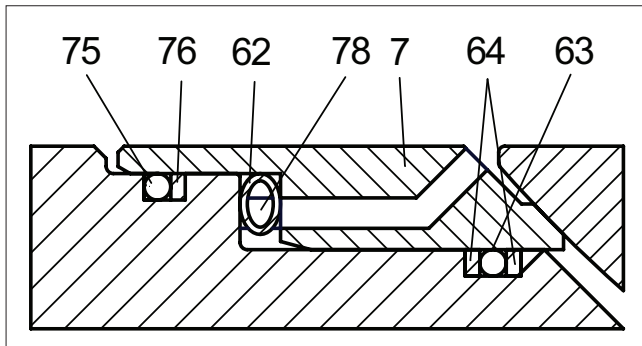

Fig. 10 E seat
- Place the back seals (63, 75) into their place in the body grooves. See Figure 10.
- Place the back-up rings (64, 76) made of PTFE strips on both sides of the back seal (63) and beside the back seal (75). To ensure that the seam becomes flexible, the strips must have slanted ends.
- Place the spring (62) into the groove in the seat (7). See the instructions at the beginning of this section.
- Place the seats into the body by hand and make sure that the pin (78) in the body, which prevents the seat from rotating, goes into the hole in the seat. Note that the bore through the seat is an ejector hole. If necessary, use a plastic mallet.